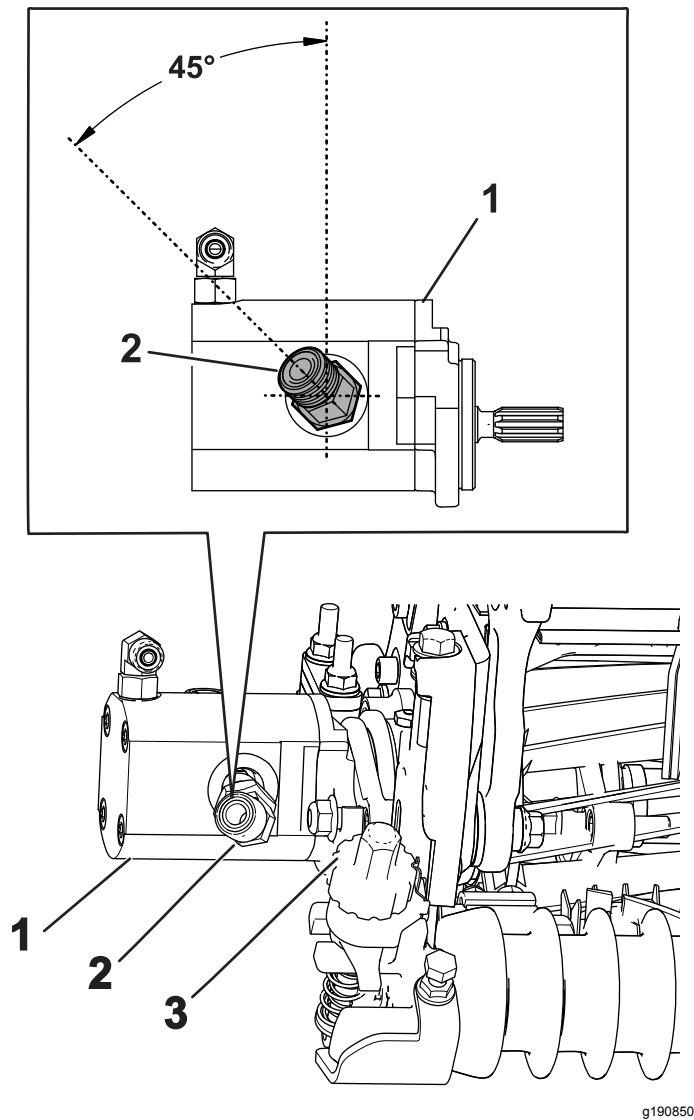

Figure 22
4. Install the new 45° fitting, positioning the fitting with the angle of the fitting as shown in Figure 22. Torque the fitting to 47 to 58 N·m (35 to 43 ft-lb).